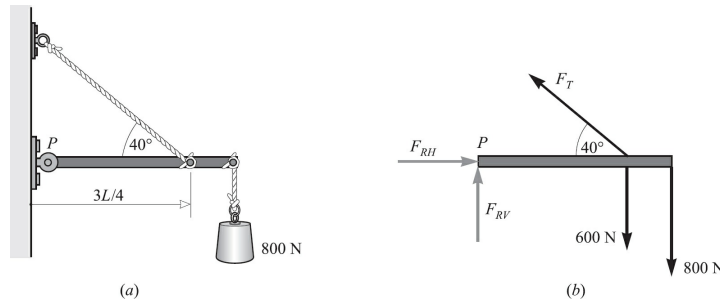

Fig. 5-8
- 5.7 [II]** Consider the situation illustrated in Fig. 5-8\(a\). The uniform 0.60-kN beam is hinged at *P*. Find the tension in the tie rope and the components of the reaction force exerted by the hinge on the beam. Give your answers to two significant figures.
The reaction forces acting on the beam are shown in Fig. 5-8\(b\), where the force exerted by the hinge is represented by its horizontal and vertical components, F_{RH} and F_{RV} . The torque equation about *P* is